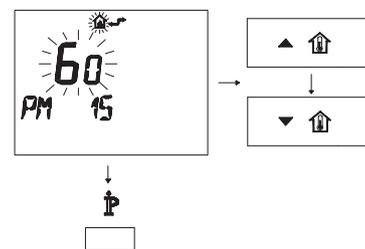

Figure 12.20
- Change the programmed SET using the buttons **▲** **⏏** or **▼** **⏏** until a **set of 60** is displayed, wait until the programmed number starts to flash (Figure 12.20).